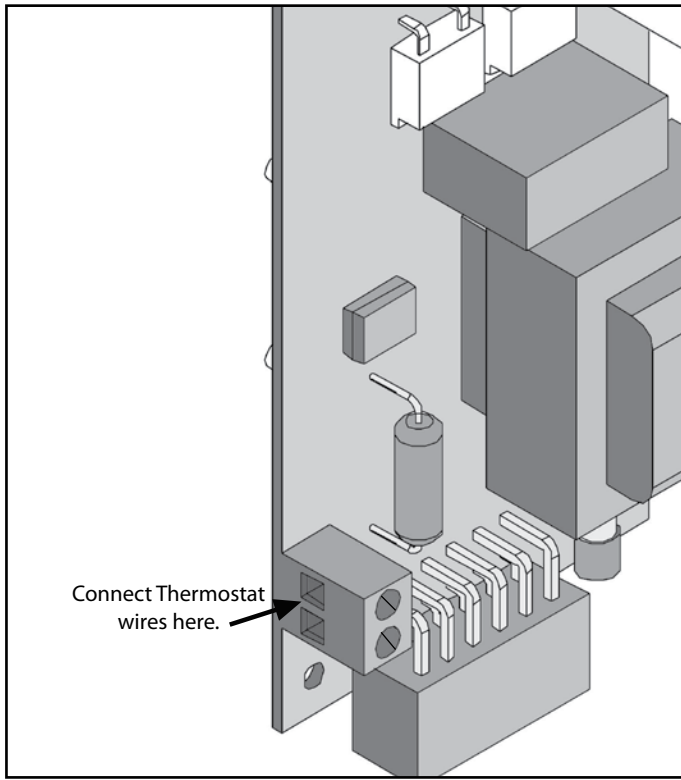

Figure 26: Thermostat Wire Location
3. The harness will need to be unplugged from the board in order to move cabinet side away from the unit. Once the harness is unplugged you can easily access the circuit board and will be able to attach the thermostat connection shown in Figure 26.